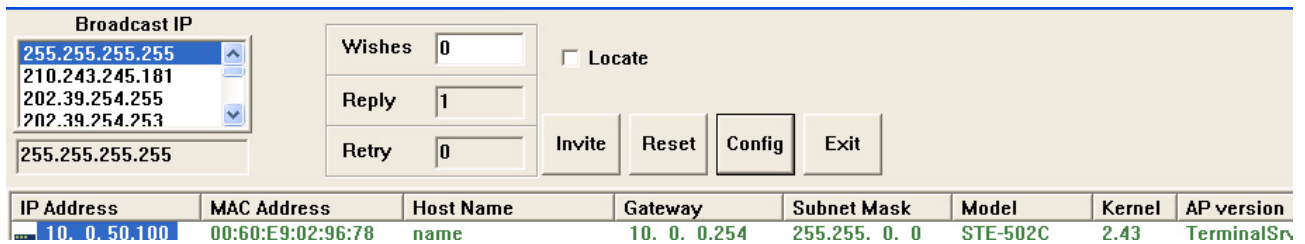
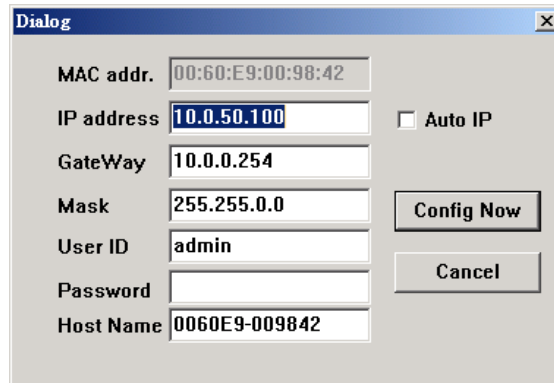

Fig. 6. Configuring the static IP with monitor.exe utility
Fig. 7. Static IP dialog window
Use **monitor.exe** on product CD to configure the STE-502C. First click "**Config**" (Fig. 6) then assign a static IP (Fig. 7).
- ➔ Execute Monitor.exe(Fig. 6)
- ➔ Click "**Config**" to pop-up the static IP Dialog Window (Fig. 7)